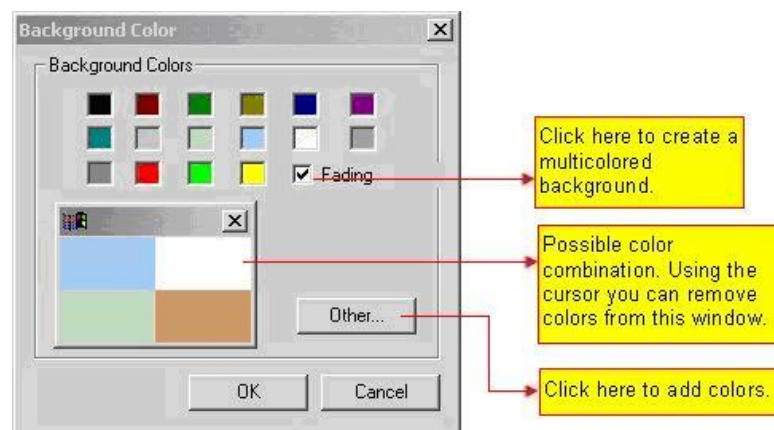

Figure 57: Background Color Selection Window
- If you have selected unicolored, the background appears in the selected color; blue in this example. The multicolored field must not be enabled. Otherwise the multicolored window is used. *Please refer to the Figure 57.*